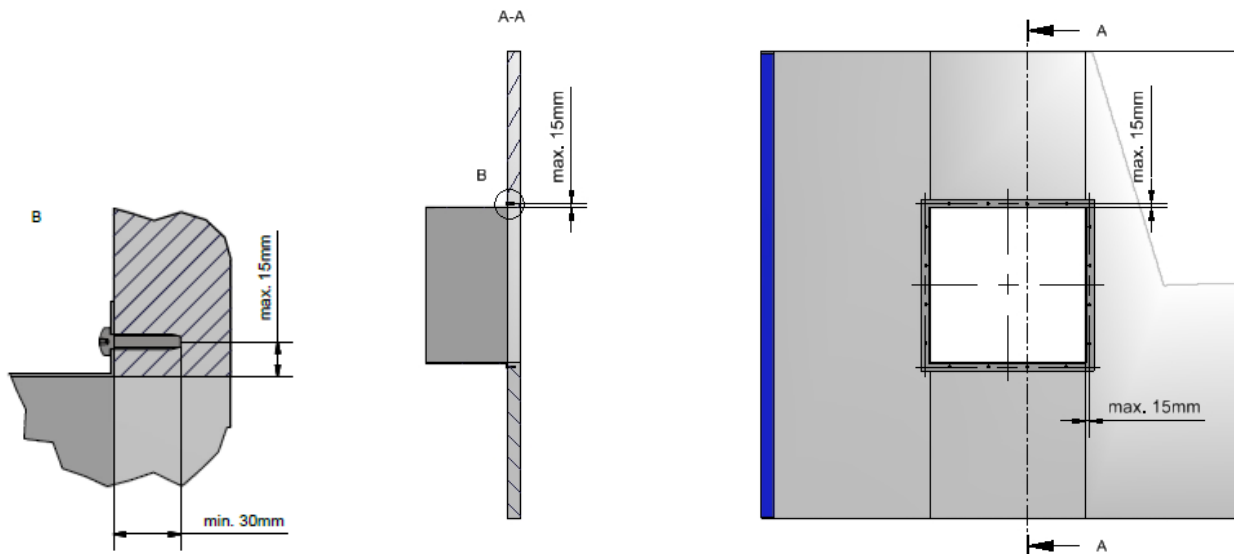

Figure 178: Mounting of duct components on the external panel of the AHU
- Attention: Holes for fastening elements must be installed at a distance of max. 15 mm from the clear device opening. If the distance is greater, then it is not possible to effectively and securely fasten it (see **Figure 178**)!